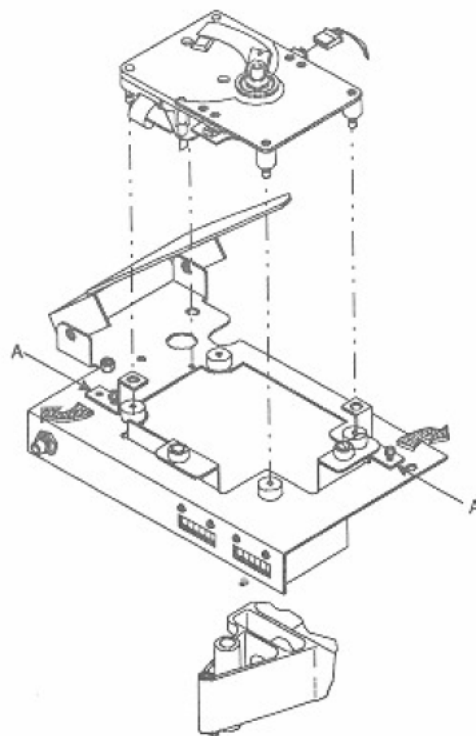

Figure 6-2A. Removing The CD Player
2. Refer to *figure 6-2A* as you do this step. To remove the player, loosen the screws holding the two retaining brackets (*A*) in place, swing the brackets out of the way, and lift the player straight up (If any of the four grommets from the player posts remain attached to the player, remove them from the player posts and place them in corresponding hole in the mounting frame).
3. Refer to *figure 6-2A* as you do this step. If not previously done, disconnect the small player electrical plug (*B*).
Do not attempt to turn the CD title pages by hand unless you use the handwheel on the back of the title rack (see figure 6-2A).